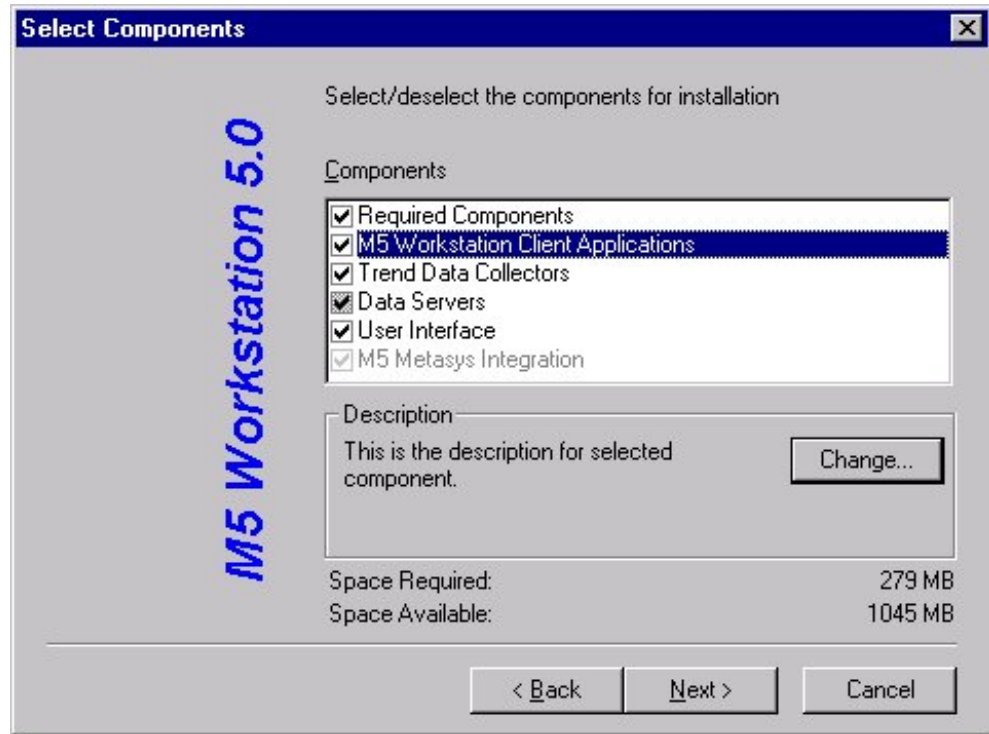

Figure 9: Select Components Dialog Box: Individual
7. Select Custom and click Next. The Select Components dialog box appears (Figure 9).